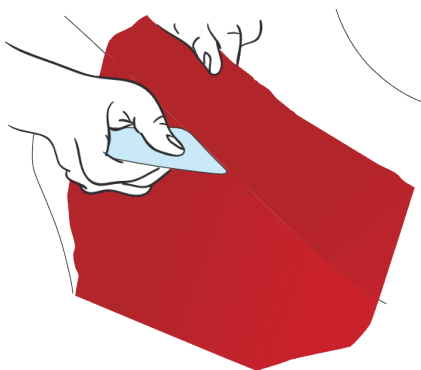

Figure 35
- › Trace the contours of the area with your finger. Lift the vinyl of the adjacent part and drag it into the hollow using a squeegee so as to mark the seal edge. (FIG. 35)